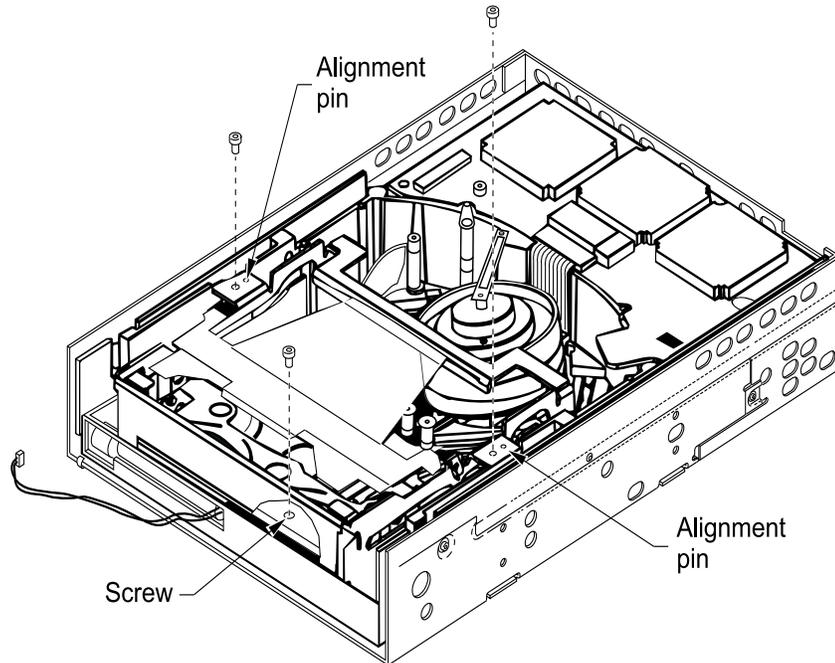

Figure 6 Installing the cartridge loader
- Using the alignment pins shown in Figure 6 for guidance, lower the back end of the cartridge loader into the tape drive.
- Replace the three screws that attach the cartridge loader to the tape drive (see Figure 6). Tighten the screws to 1.2 inch-pounds of torque.
- Using a pair of tweezers, reconnect the cartridge loader wires to the circuit board (see Figure 6).